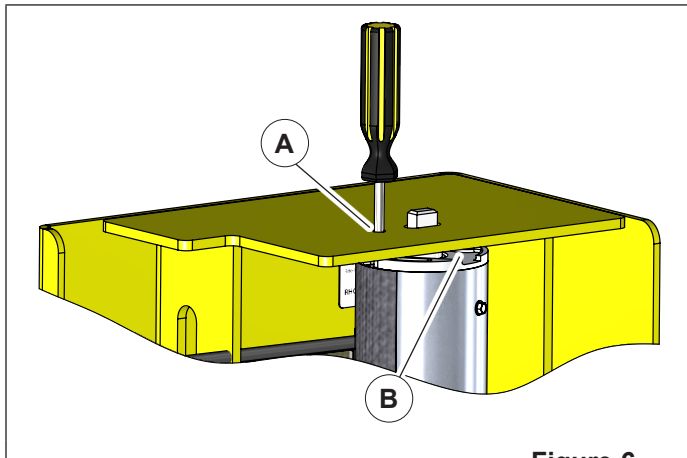

Figure 6
2. Lock the roller with a screwdriver, by inserting the screwdriver through the hole in the top of the storage support (A) and 1 of the slots (B) in the roller tube concurrently. See "Figure 6" on page 9.